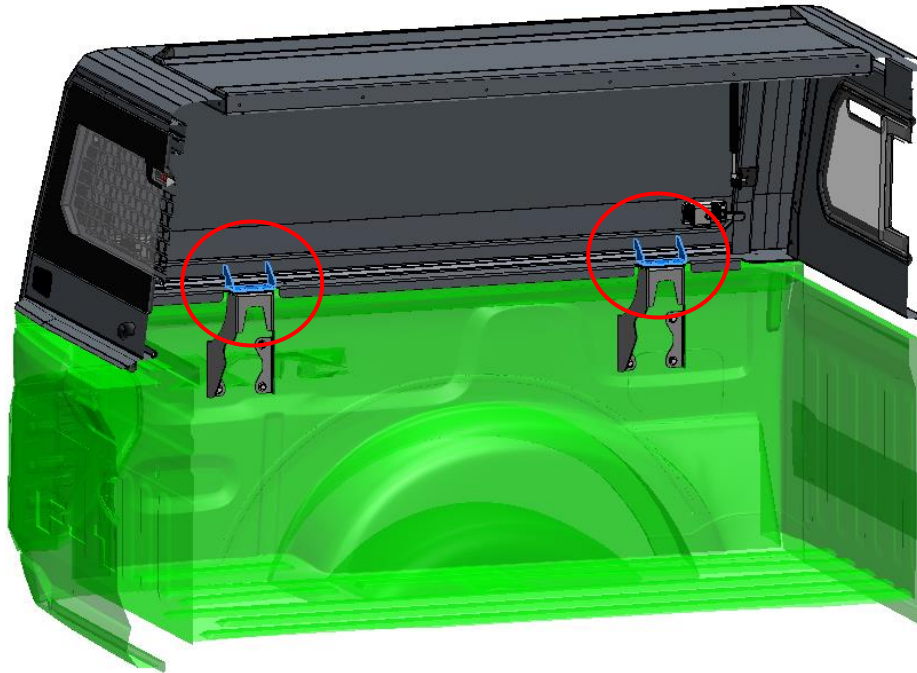

Fig. 2.6.1
- Ensure that the holes in both the fitment positions on the canopy and the holes on top of the fitment brackets align. Adjust the canopy position to align if needed. Fig. 2.6.1